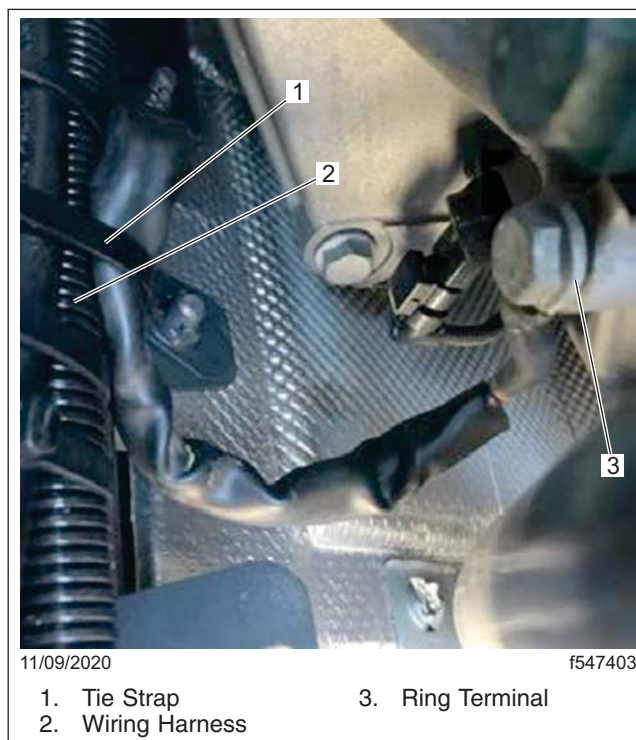

Fig. 6, Ground Wires, Correct Installation
11. Use a tie strap to attach the ground wires to the wiring harness convoluted tubing. See Fig. 6.